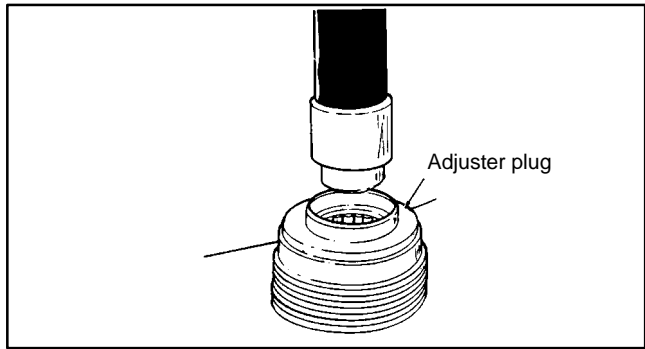

Figure 35
11. Remove valve and worm shaft as an assembly with both races and bearing. Separate as follows (Fig. 35):